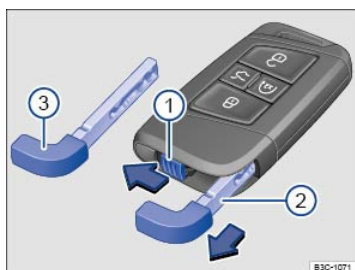

Fig. 57 Releasing the emergency key and removing it from the remote control vehicle key.
Key to ⇒ Fig. 57 :
- ① Emergency key release.
- ② Removing the emergency key.
- ③ Emergency key bit.
If your vehicle is equipped with Keyless Access, there is an emergency key ⇒ Fig. 57③ inside the remote control vehicle key fob.
To remove the emergency key: Move the sliding lock ⇒ Fig. 57① in the direction of the arrow. At the same time, push the emergency key out of the slot in the remote control vehicle key in the direction of the arrow ②.